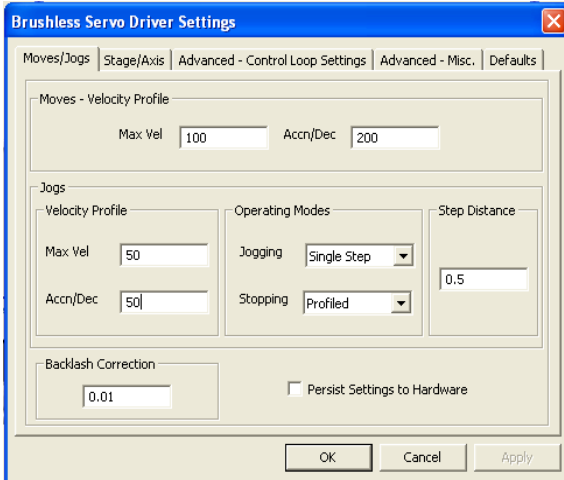

Fig. 4.5 Settings Panel - Move/Jogs Tab
- 2) Select the Move/Jogs tab as shown in Fig. 4.5.